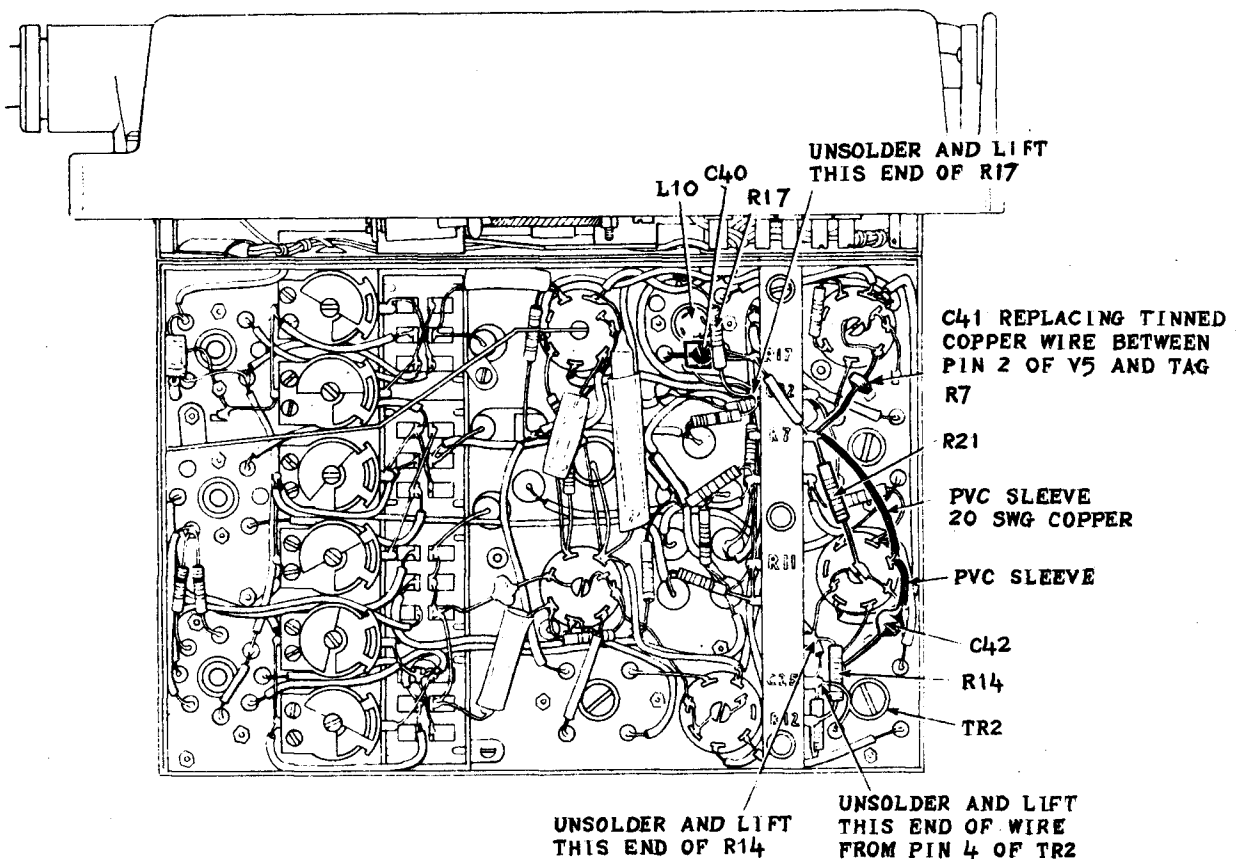

FIG. 1
6. Remove receiver chassis from case and install the following as detailed (refer Fig. 1).